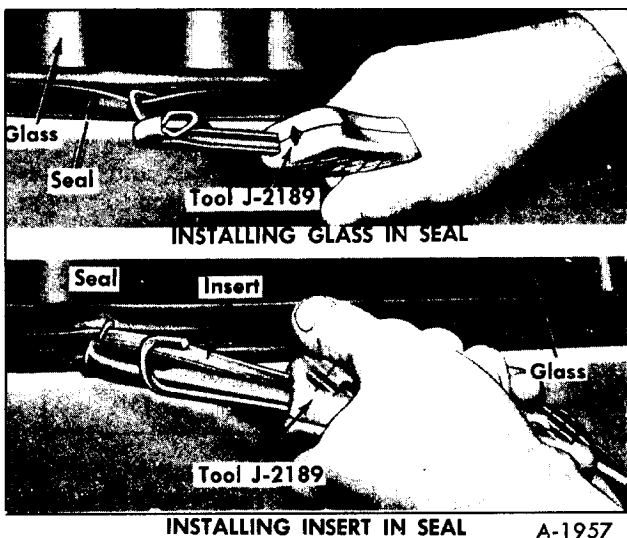

Figure 3—Positioning Seal and Insert
## INSTALLATION (fig. 3)
1. Reposition rubber seal on opening flange. Raise new glass to outside of seal; then with hook end of installer tool (J-2189) in glass groove of seal as shown in figure 3, move tool around glass to force outer lip of seal over edge of glass.
2. Thread end of rubber insert through handle and loop of installer tool (fig. 3). Push tool loop and end of insert into groove of seal. Feed in rubber insert, while proceeding around window. Use a hitching movement of tool to avoid elongating insert. If new insert is being used, cut off insert allowing sufficient overlap for a tight joint; then butt into groove.
1. Reposition rubber seal on opening flange. Raise new glass to outside of seal: then with hook end of installer tool (J-2189) in glass groove of seal as shown in Figure 3, move tool around glass to force outer lip of seal over edge of glass.
2. Thread end of rubber insert through handle and loop of installer tool (figure 3). Move installer to middle of insert. Starting at top-center of rubber seal push tool loop and insert into seal groove. Feed in rubber insert, while proceeding around one side of window. Use a hitching movement of tool to avoid elongating insert, position emergency exit pull ring on rubber insert at top center of window. Thread other end of rubber insert through handle and loop of installer tool. Push tool loop and insert into seal groove and position pull ring in place. Feed in rubber insert, while proceeding around other side of window. If new insert is being used, cut off insert allowing sufficient overlap for a tight joint; then butt into groove at bottom of window.